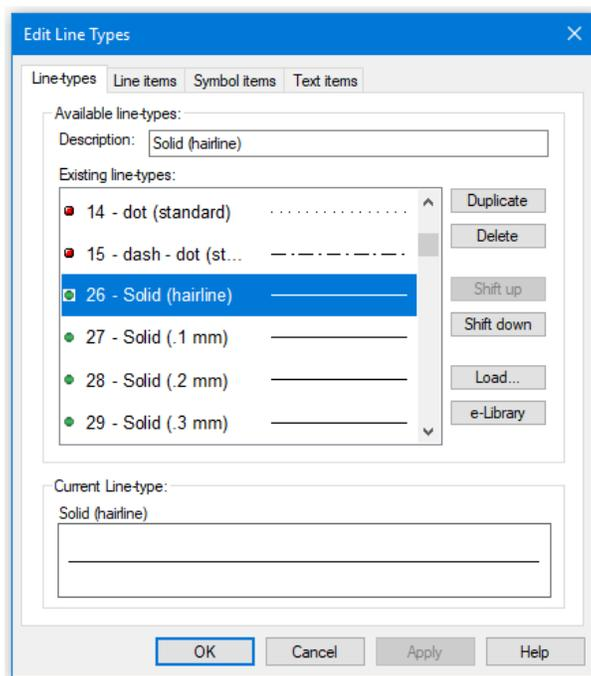

Figure 12-10: Edit Line Types Dialogue Box
3. Press the *Line-types...* button in the *Tables* group to open the *Edit Line Types* dialogue box (Figure 12-10).